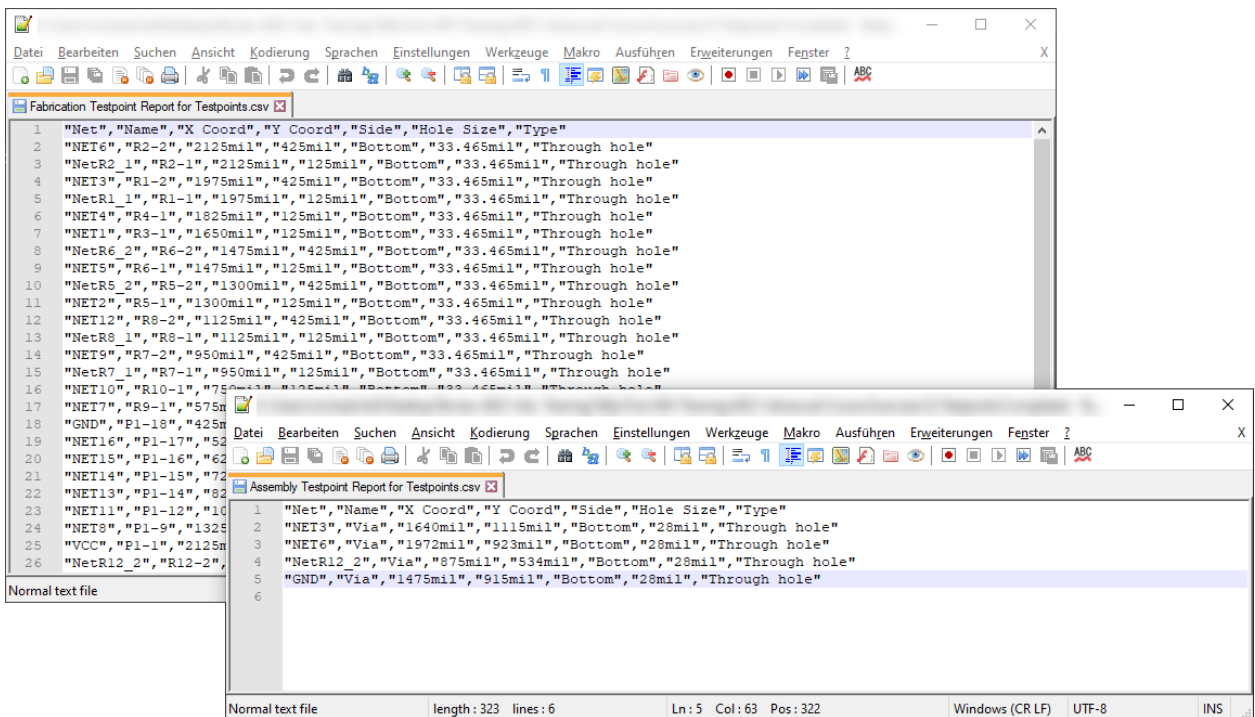

Figure 5. Testpoint Reports as CSV
23. Two tabs in the editor window will be created for the testpoint reports. These files will also appear in the *Generated* section of the *Projects* panel, see Figure 5 .